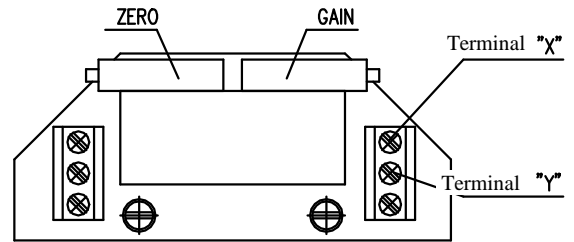

Fig. 11
**4.6.2 EPV – 3-wire version (Fig. 11,11a)**
- Adjust the resistive transmitter according to the previous chapter. The resistance is to be metered on the terminals X-Y (Fig. 11,11a). The used transmitter resistance is 2000 W or 100 Ω.